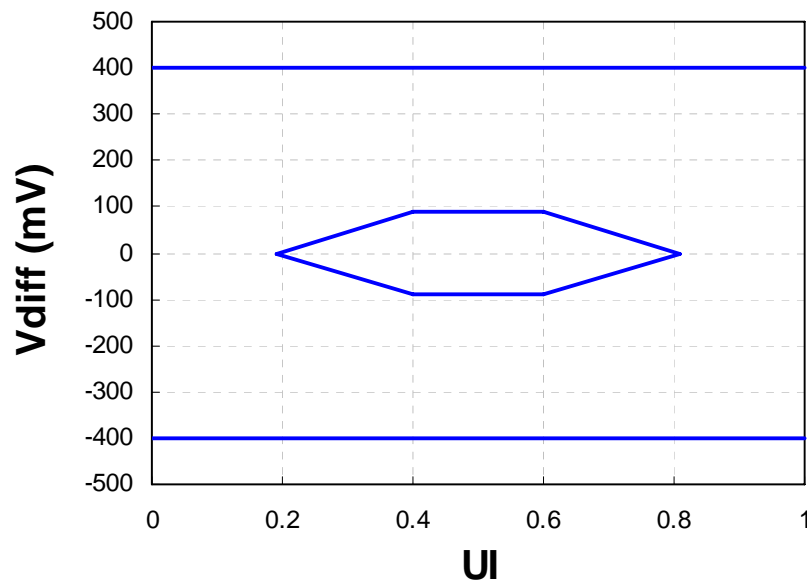

Figure 2. Transmitter Input Differential Signal Condition Mask
2. DC coupled internally. See Figure 2 for input eye mask requirements. Self-biasing 100Ω differential input. **Must be AC-coupled on HOST.**